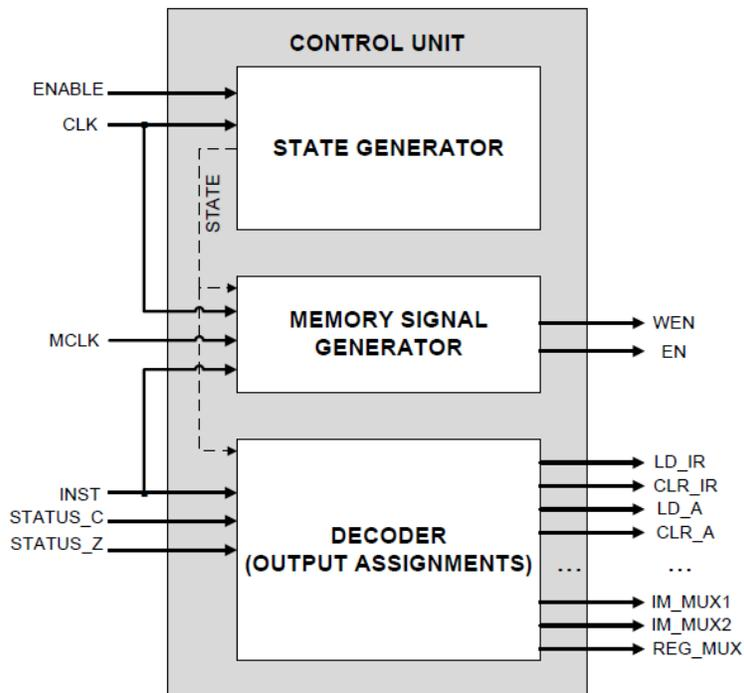

Figure 1: CPU Control Unit
The purpose of this laboratory is to design and implement the control unit to provide control signals to the 32-bit CPU data-path designed in Lab 4. The block diagram of the control unit with all the inputs and outputs is illustrated in Figure 1.
**Note: When *ENABLE* signal (shown in Figure 1) is not asserted, the circuit should go to state T0 and remain in this state until the *ENABLE* signal is asserted again. At that point, the circuit resumes normal operation.**